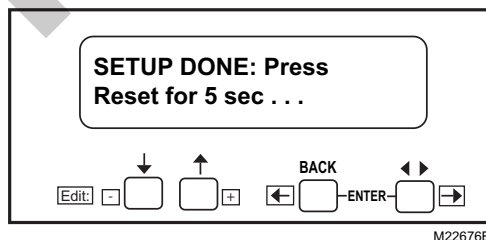

Fig. 12. Setup Done screen.
2. Press the down arrow to confirm the correct postpurge time. "Getting Data" will be displayed until the screen in Fig. 12 appears.